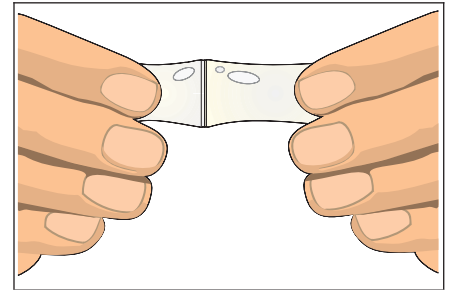

Figure 1 Mix resin and activator inside package of prepackaged epoxy.
1. Remove the clip separating the resin and activator. Mix by squeezing both halves together with your fingers. Mix for at least one minute to ensure a complete mix of the resin and activator. (See Figure 1.)